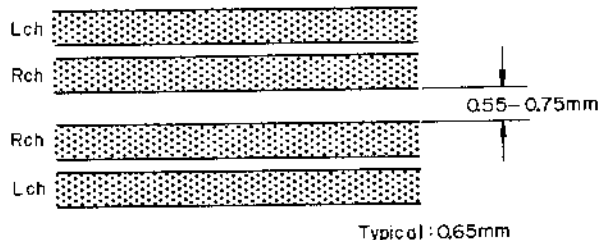

Fig. 4.26
- (o) Immerse the recorded tape in a magnetized developing solution. In turn, check to insure that the recording head tracks across the center are separated with a distance of 0.55 to 0.75 mm (typically 0.65 mm) as illustrated in Fig. 4.26.